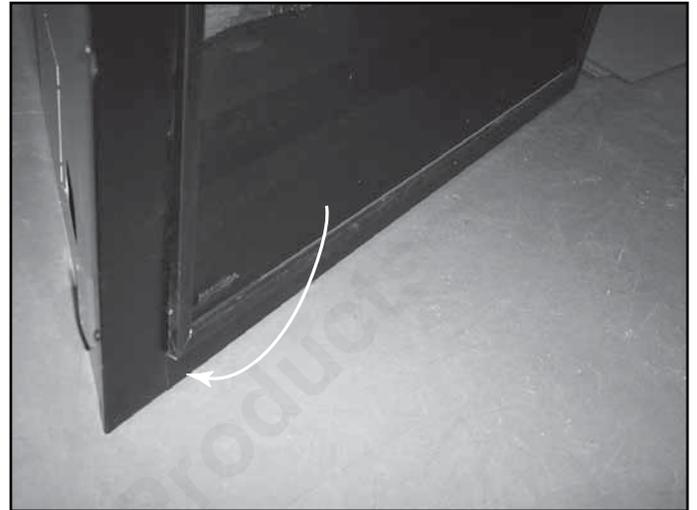

Figure 15.14 Rotate the Screen Down
- Rotate the screen in at the bottom until it touches the magnetic touch latches. See Figure 15.14.